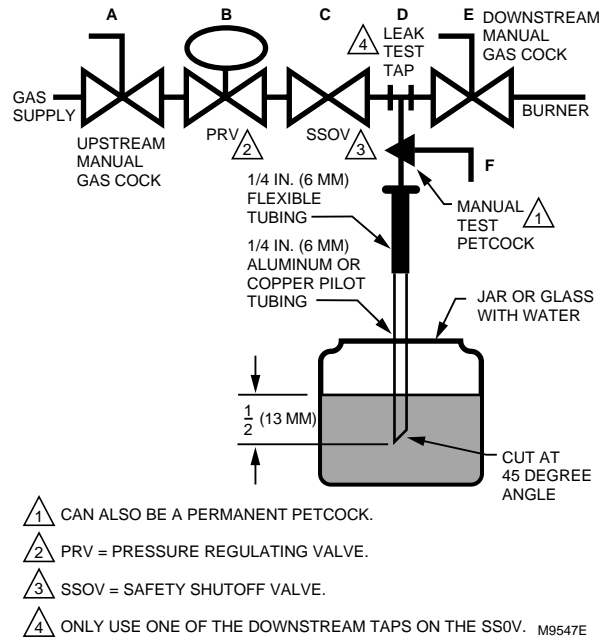

Fig. 6. Valve leak test.
### **Prepare Piping and Install Valve (Fig. 6).**
4. Install the valve in a horizontal pipe line in an upright position with the gas flow in the direction indicated by the arrow on the casing. The valve must be upright (electrical connection tower in the up position) on a horizontal axis with respect to the inlet connection (see Fig. 6). Certain models may be mounted in the